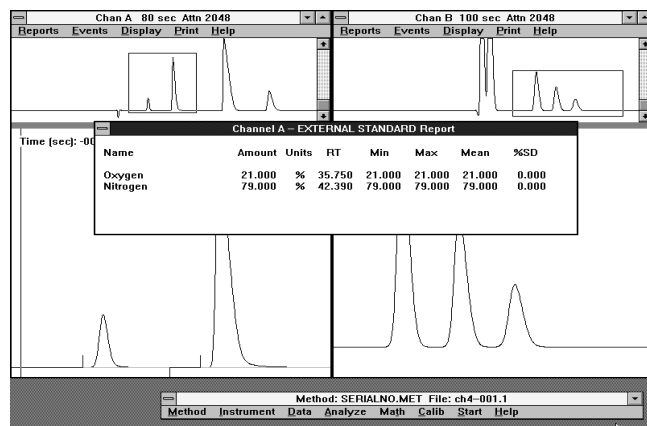

Figure 18 Crosshair cursor
3. Move the double headed cursor into the report window. You should see the single headed arrow change to the crosshair cursor (See Figure 18).